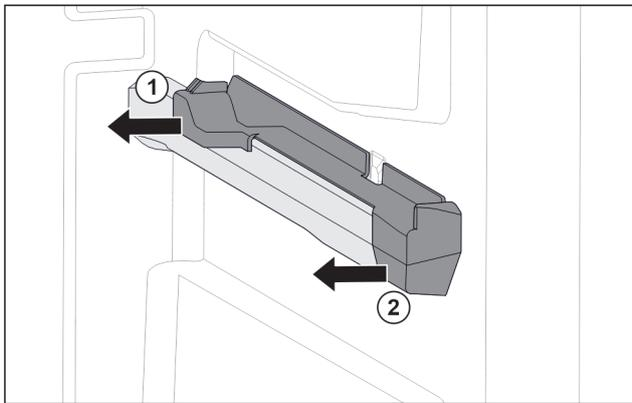

Fig. 93 Attachment on the right moulded rib
- ▶ Grab attachment at the back from below. (1)
- ▶ Pull off attachment at the back sideways. Fig. 93 (1)
- ▶ Pull off attachment at the front sideways. Fig. 93 (2)